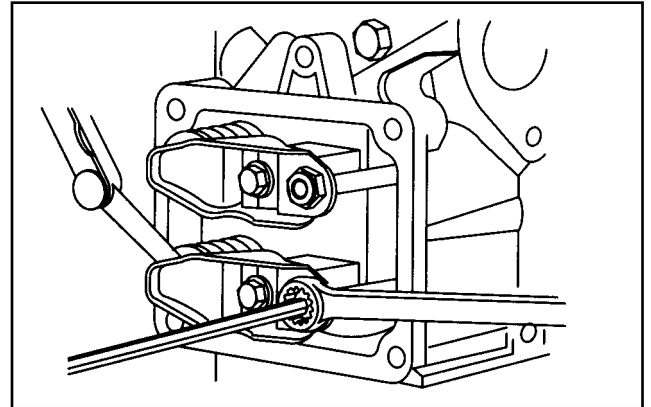

Fig. 26 - Adjust Valve Clearances
- a. Adjust valves and check, Fig. 26.